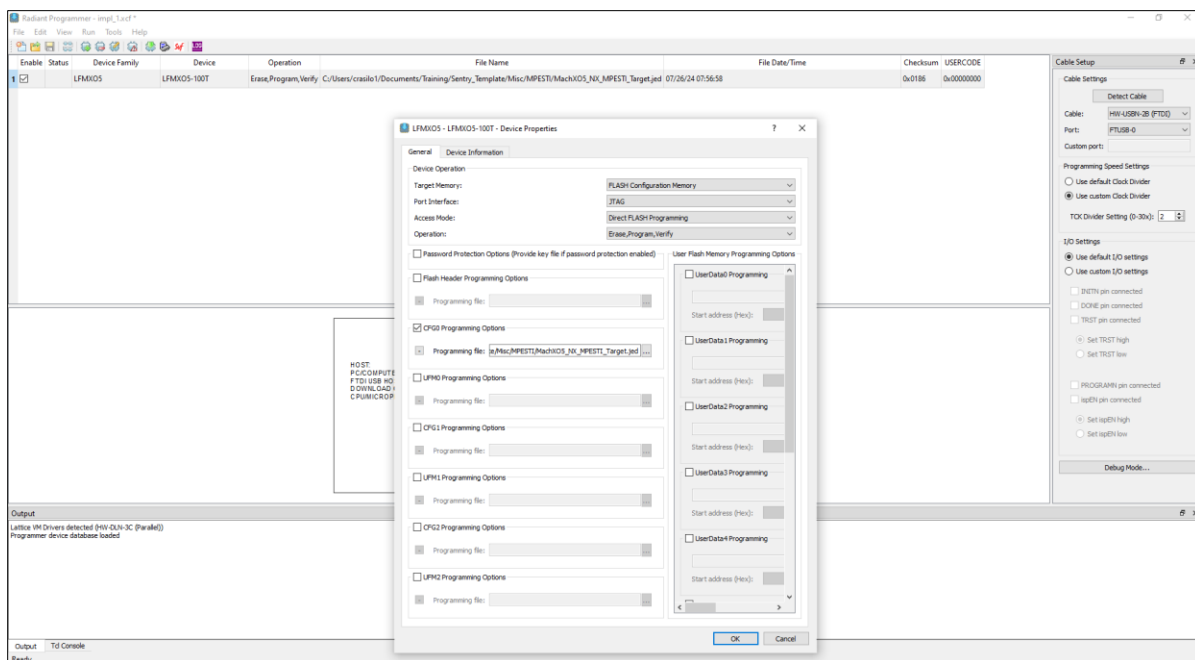

Figure 5.15. MachXO5-NX Configuration
- In Radiant Programmer, upload the JED file using Flash Configuration Memory (Figure 5.15).